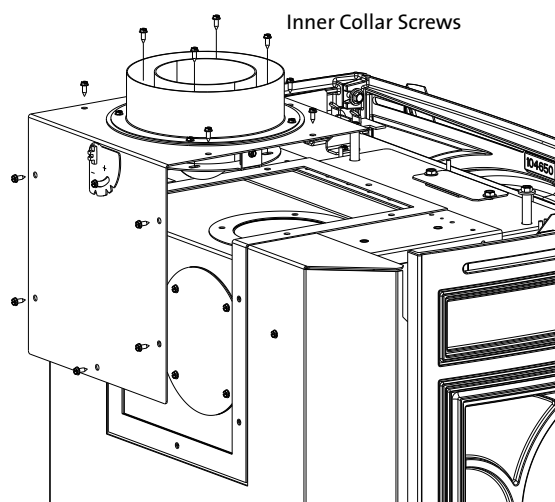

Figure 2.3.
1. Use a 1/4" nut driver to remove four inner screws from around the Vent Adaptor collar. See fig. 2.3. Remove five screws from around the top perimeter, and five additional screws from the rear perimeter. The vent adaptor will come away as an assembly.